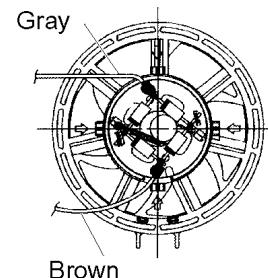

Figure 2
1. Assemble the heater into slots of motor block assembly as shown in Figure 2.